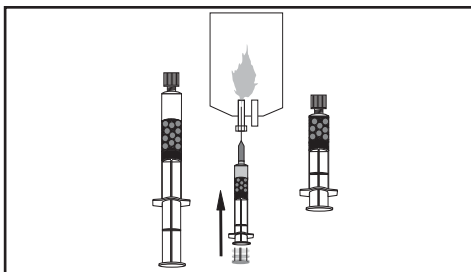

Figure 6.
- 5.2 While keeping syringe upright and taking care not to disrupt settled microspheres, attach a sterile filter needle to the delivery syringe. With the filter needle pointed upward, eject supernatant (Figure 6). Ensure enough supernatant remains inside the delivery syringe to cover the microspheres.